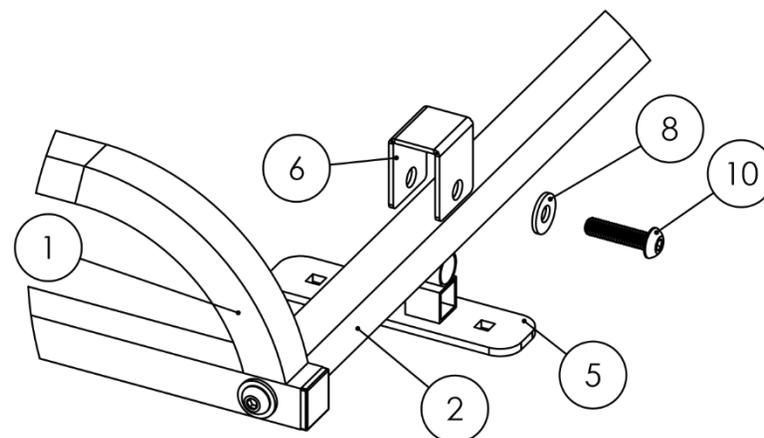

Figure 5
5. **Install the front Feet.** Locate the Feet (**Item No. 5**) and notice that the base is longer on one side than the other – the longer side is meant to be on the backend of Crossbar A (**Item No. 2**). As shown in **Figure 5**, bring the U-Shaped Clamp (**Item No. 6**) over the Crossbar while making sure that the thread found on the Clamp is on the backend as well. Thread and lightly tighten a 1.25" Button Head Cap Screw (**Item No. 10**) and Metal Washer (**Item No. 8**). To improve stability of the rack, loosen this U-Shaped Clamp and adjust the distance between the feet. Tighten both front Clamps once you have marked the top of your canopy through the holes in each Foot.